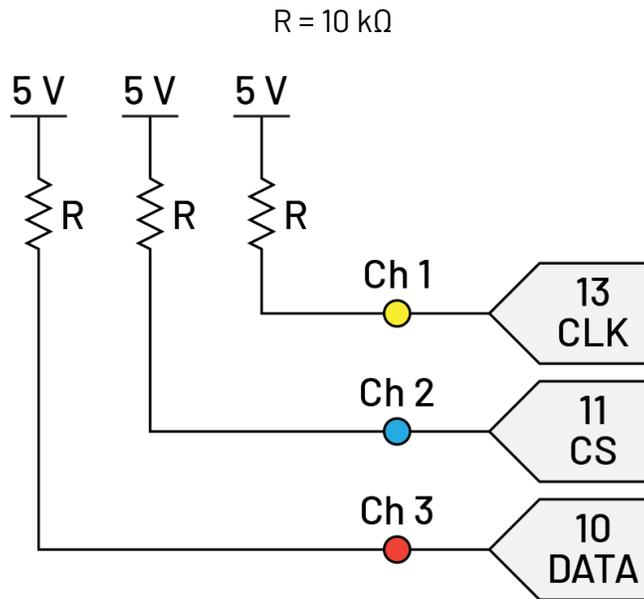

Figure 1. Pullup resistor wiring.
1. Serial Peripheral Interface (SPI) is a synchronous serial communication protocol typically used for short-distance communication in embedded systems. It involves a controller or master device that initiates communication and one or more peripheral or slave devices. The controller generates a clock signal (SCLK) and uses a single data line for bi-directional data transfer (sometimes called SDI/SDO, or simply data line). The controller uses the slave select (SS) or chip select (CS) line to select the peripheral device by activating the signal low. For this lab, the controller device will be an Arduino UNO. The 2 Series MSO will decode the SPI signals sent by the Arduino by using three channel probes.
2. Create the wiring diagram in Figure 1. with the corresponding pull up resistors. Use the 5V output on the Arduino UNO to supply voltage to the resistors. Connect the digital pins 10, 11 and 13 to the resistors. To observe and decode the message, connect channel 1 to the clock (pin 13), channel 2 to the chip select (pin 11) and channel 3 to the data line (pin 10). Make sure to ground the probes to one of the GND pins on the Arduino.